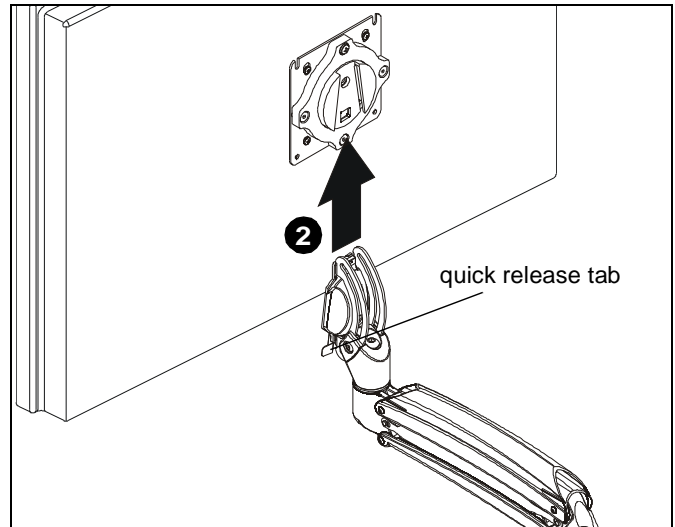

Figure 24
WARNING: Only remove display from mount when the display can be lifted up from the mount! DO NOT remove display unless the display is in the upright position! (See Figure 24)
2. Remove quick release faceplate from mount by pulling quick release lever and sliding faceplate off mount. (See Figure 24)